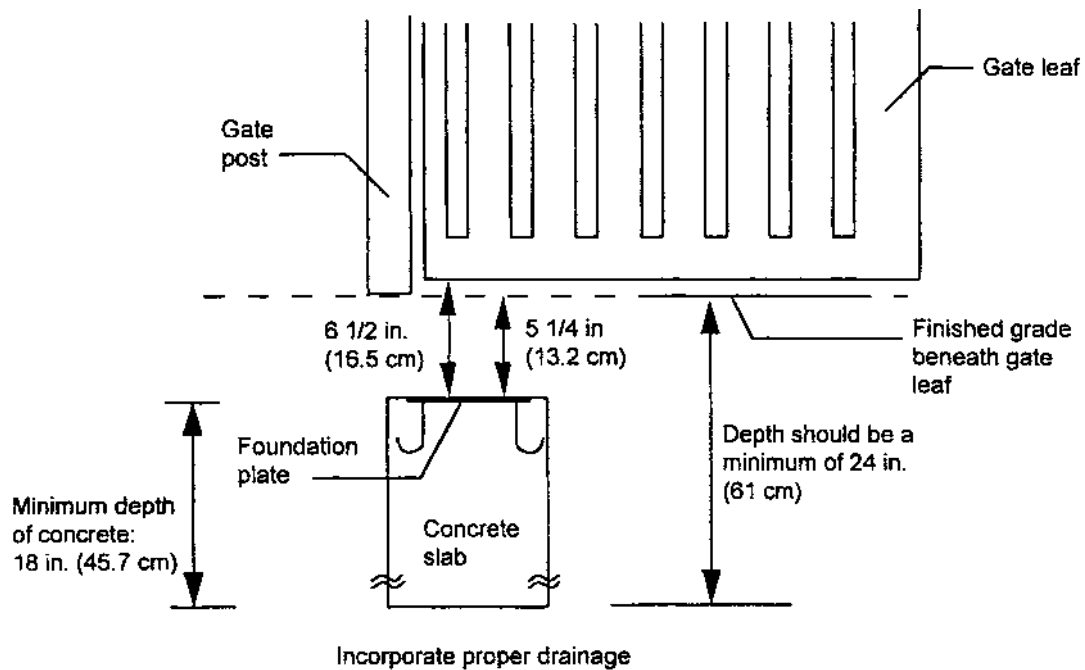
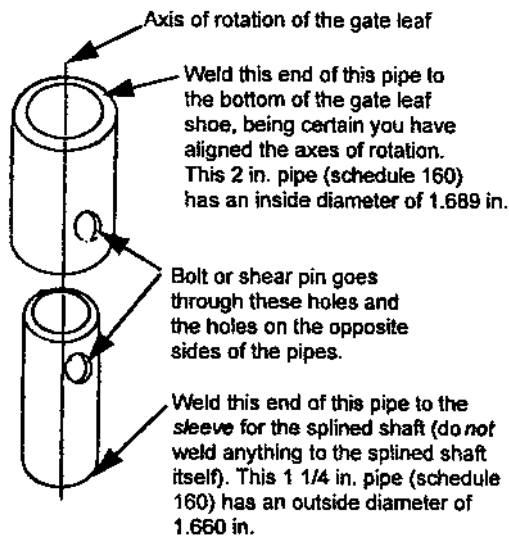

Figure 5. Recommended dimensions for the concrete footing and foundation plate, side view
Figure 9. A sample shear-pin assembly
Note: If the vertical distance between the finished grade and the bottom of the gate leaf exceeds 1 1/4 in. (3.3 cm) as shown in Figure 5, you can install a shear-pin assembly as shown in Figure 9 and as discussed in "Installing the Gate Leaf Shoe."
If the vertical distance between the finished grade under the gate and the bottom of the gate leaf is more than 1 1/4 in. (see Figure 5), you need to do one of the following:
- Construct a shear-pin assembly to accommodate the extra vertical distance. The assembly is welded to the bottom of the gate leaf shoe on one end and to the sleeve for the splined shaft of the pinion on the other end (see Figures 9 and 10). Such an assembly requires a bottom hinge and also protects the pinion and splined shaft in the event something hits the gate with great force.
Installing the gate leaf shoe involves making the gate leaf shoe, positioning it, and welding it to the splined shaft sleeve. If you are retrofitting the 750 Operator to an existing gate, these tasks require you to remove the gate leaf from its hinges. If you are using a shear-pin assembly, refer to Figures 9 and 10 to determine what you should weld together.